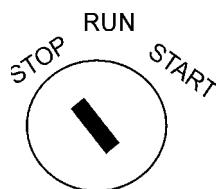

Figure 53. Ignition Switch (OFF)
3. Turn the key to the 'STOP' position to shut down the engine (Figure 53).